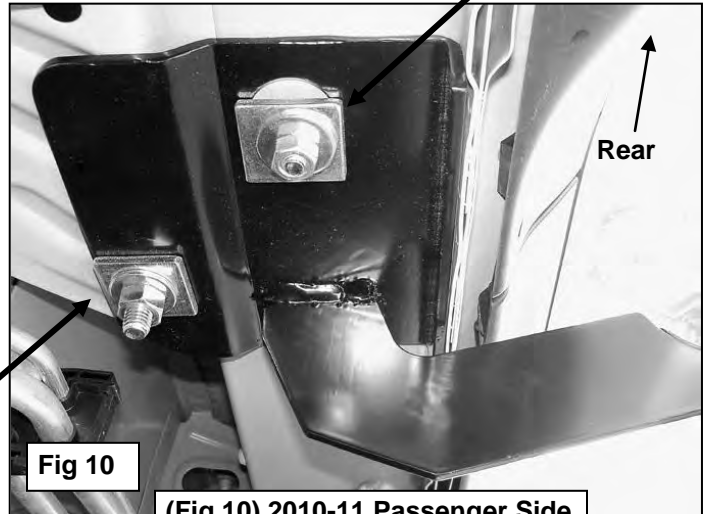

Fig 10
- b. **On 2010-11 Vehicles:** Use (1) 12mm Square Washer, (1) 10mm Flat Washer, (1) 10mm Lock Washer and (1) 10mm Hex Nut to secure the Bracket to the 10mm Bolt Plate in center of the floor panel, (**Figure 10**). Use (1) 12mm Flat Washer, (1) 12mm Lock Washer and (1) 12mm Hex Nut to secure the Bracket to the Bolt Plate in the round hole. Do not tighten hardware at this time.
(Fig 10) 2010-11 Passenger Side Rear Installation Pictured